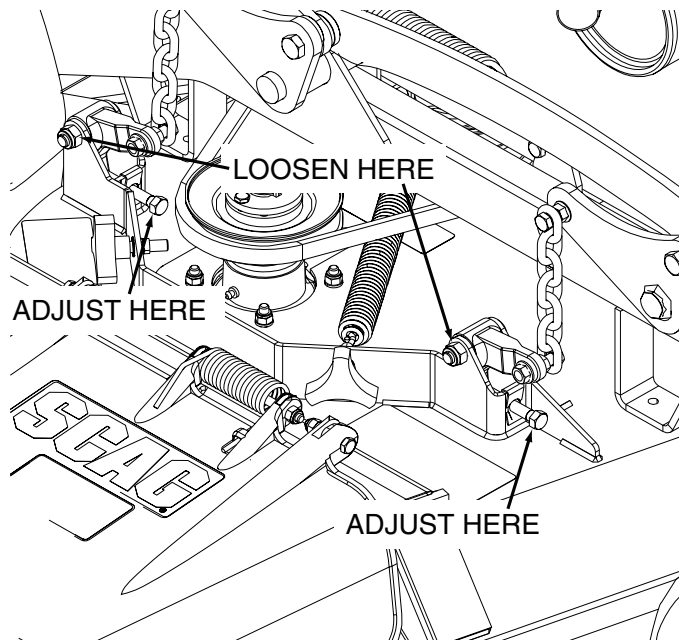

Figure 6-7. Right Side Cutter Deck Adjustment
A. Loosen the elastic stop nuts securing the deck level links on the front and rear of the cutter deck. See Figure 6-7.